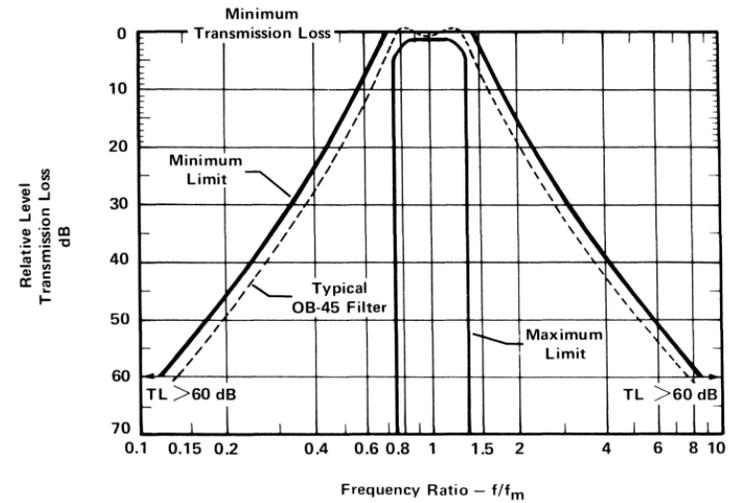

Figure 11. Normalized Amplitude Response — Octave Band Filter Class II
The OB-45 is a Class II Octave Band Filter set conforming to ANSI S1. 11-1971 specifications. The normalized passband characteristics of the filters are depicted in Figure 11.
3. Move the WEIGHTING selector to EXT to engage the OB-45. The meter reading should still be almost +10 but may be as much as 0.5 dB lower than full scale because of the contour of the filter in the bandpass zone (see Figure 11).
4. Next move the FREQUENCY selector to 2 KHz and then to 500 Hz. In both positions the meter reading should drop 18 to 19 dB (see Figure 11).